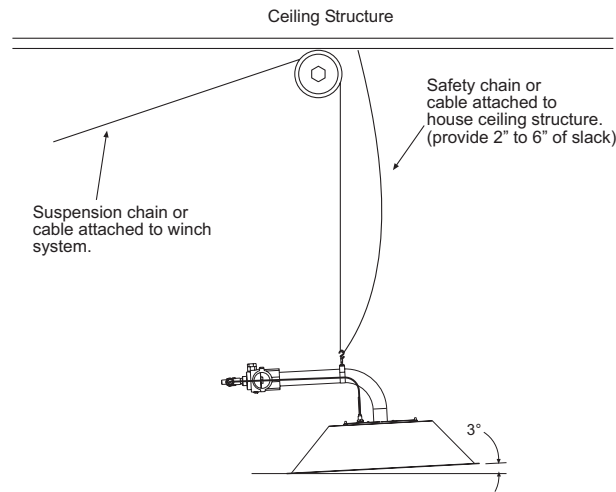

FIGURE 3
3. Connect the gas line and electrical supply (if required) to each brooder as outlined in Sections 7 and 8. After connection of the gas line, make sure that the brooder is suspended with an angle of approximately 1 1/2 to 3° as shown in figure 3 to prevent hot products of combustion from damaging the gas control valve.